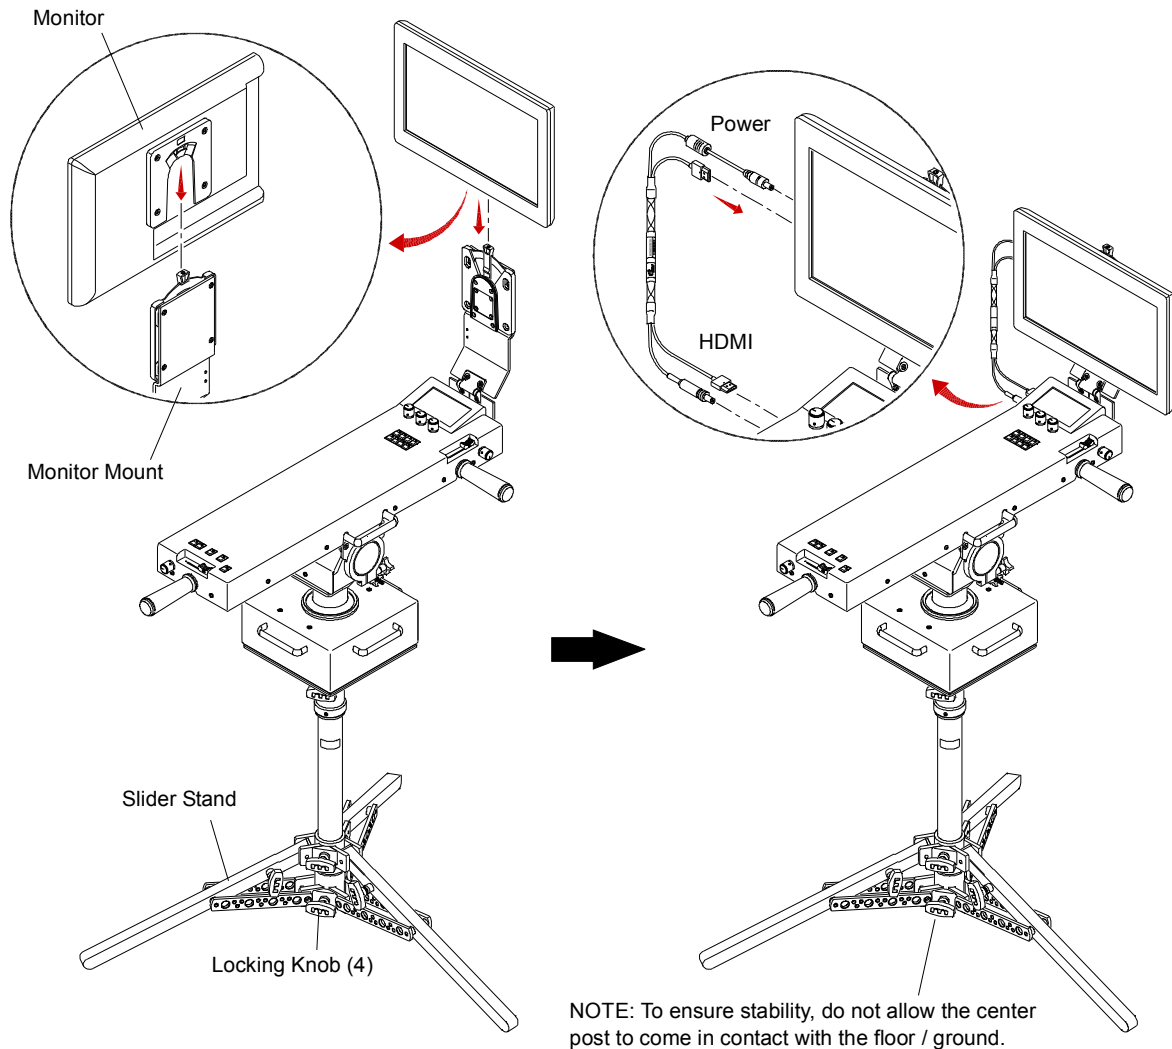

Figure 13: Assembling GC Followspot Controller
- Step 1. Extend legs of slider stand and place on floor (**Figure 13**). Lock in place by tightening two bottom locking knobs. *To ensure stability do not allow the center post to come in contact with the floor / ground.*